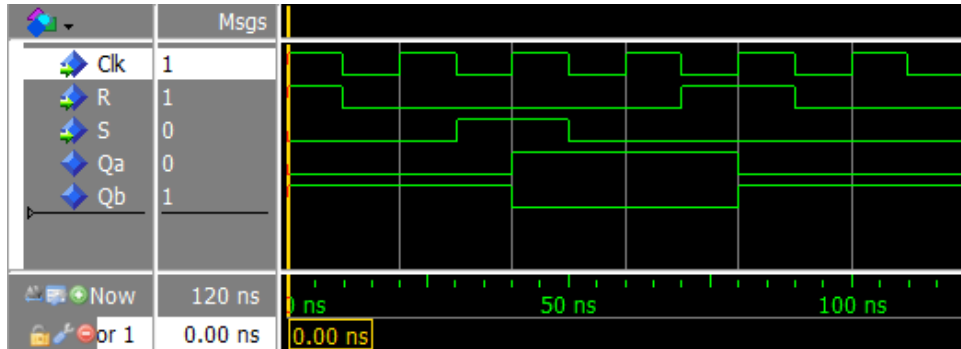

Figure 5: Simulation waveforms for the RS latch.
4. Simulate the behavior of your Verilog code by using the simulation feature provided in the Modelsim software. Use the testbench provided in the laboratory materials to drive the signals for your simulation. The procedure for using Modelsim for simulation is described in the tutorial *Introduction to Simulation of Verilog Designs Using ModelSim Graphical Waveform Editor*. An example of a vector waveform file is displayed in Figure 5. The waveforms in the figure begin by setting $Clk = 1$ and $R = 1$, which allows the simulation tool to initialize all of the signals inside of the latch to known values.